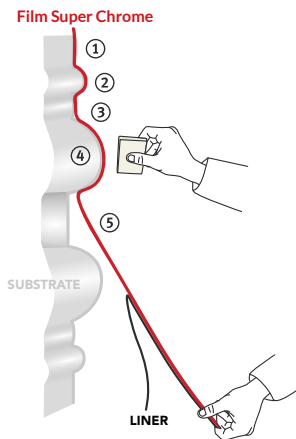

Figure 07
- › Gradually remove the liner while pulling it downward. (FIG. 07)
- › Start applying the hollow ①, then the peak ② and finally the hollow ③.
- › Continue onto the next undulation ④, then keep going ⑤ until completion of the application.